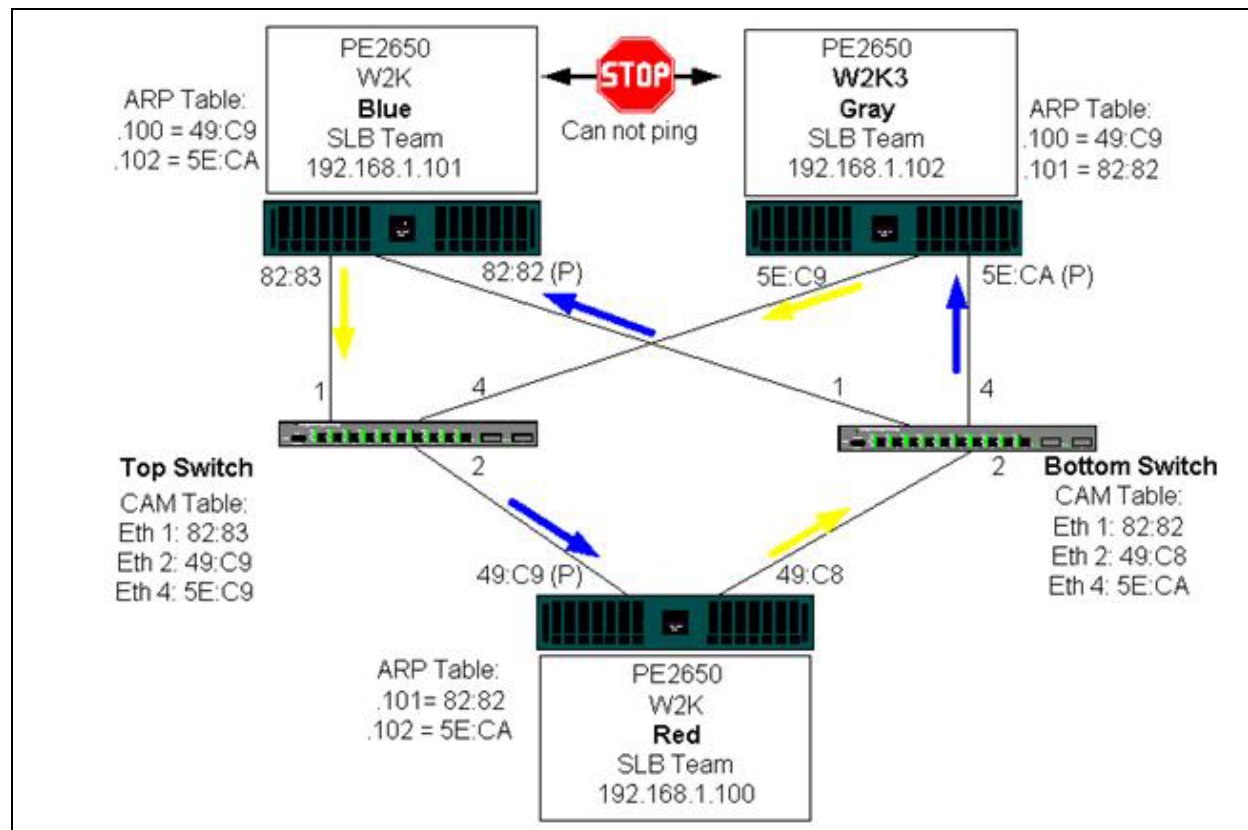

Figure 11-3. Teaming Across Switches Without an Inter-Switch Link
- Figure 11-3 is a setup without the interconnect cable in place between the two switches.